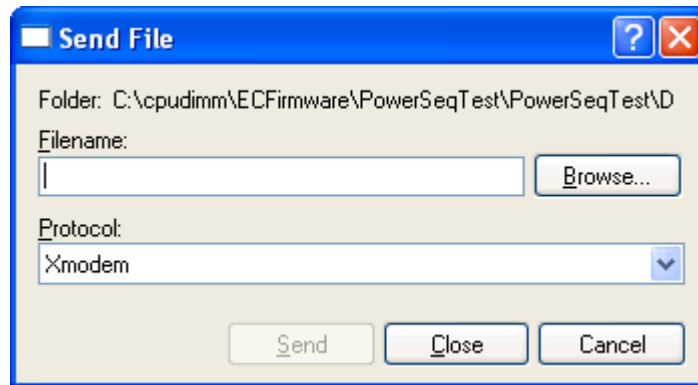

Figure 6 Xmodem Send File
8. When prompted to start Xmodem, select Transfer->Send File from the Terminal Client Menu as shown in Figure 6.